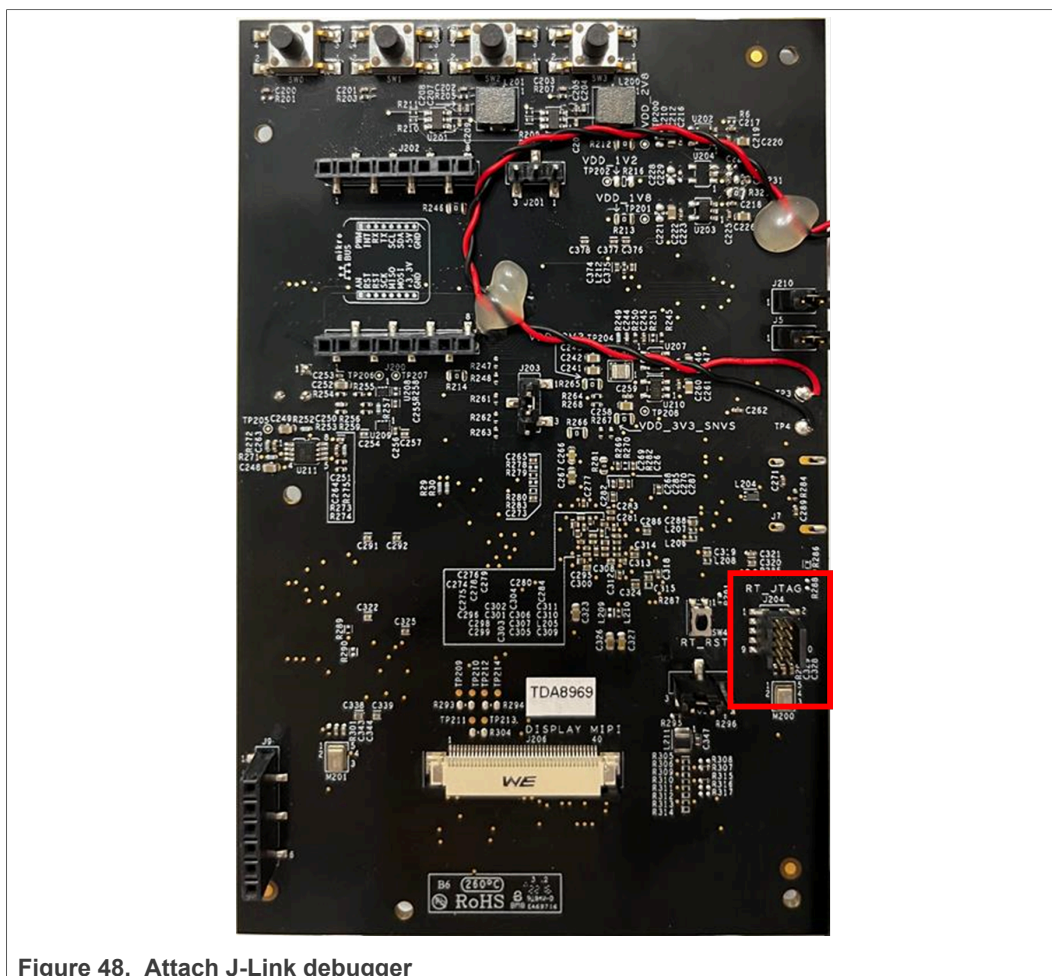

Figure 48. Attach J-Link debugger
1. Attach your J-Link debug probe into the J204 header as shown in Figure 48 and connect your J-Link to your computer via USB.